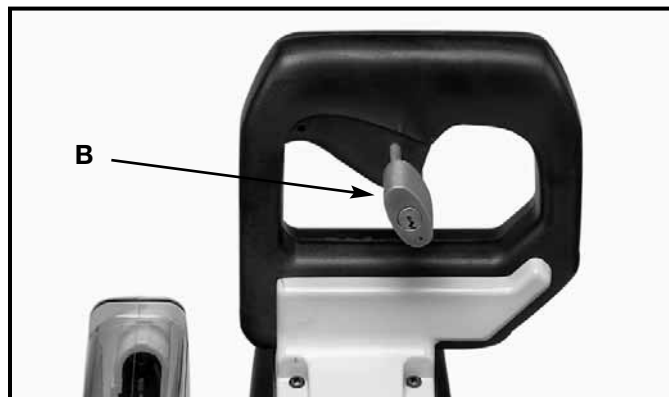

Fig. 12
⚠ WARNING WHEN THE MITER SAW IS NOT IN USE, THE SWITCH SHOULD BE LOCKED IN THE "OFF" POSITION USING A PADLOCK (B) FIG. 12, WITH A 3/16" DIAMETER SHACKLE TO PREVENT UNAUTHORIZED USE OF THE SAW.